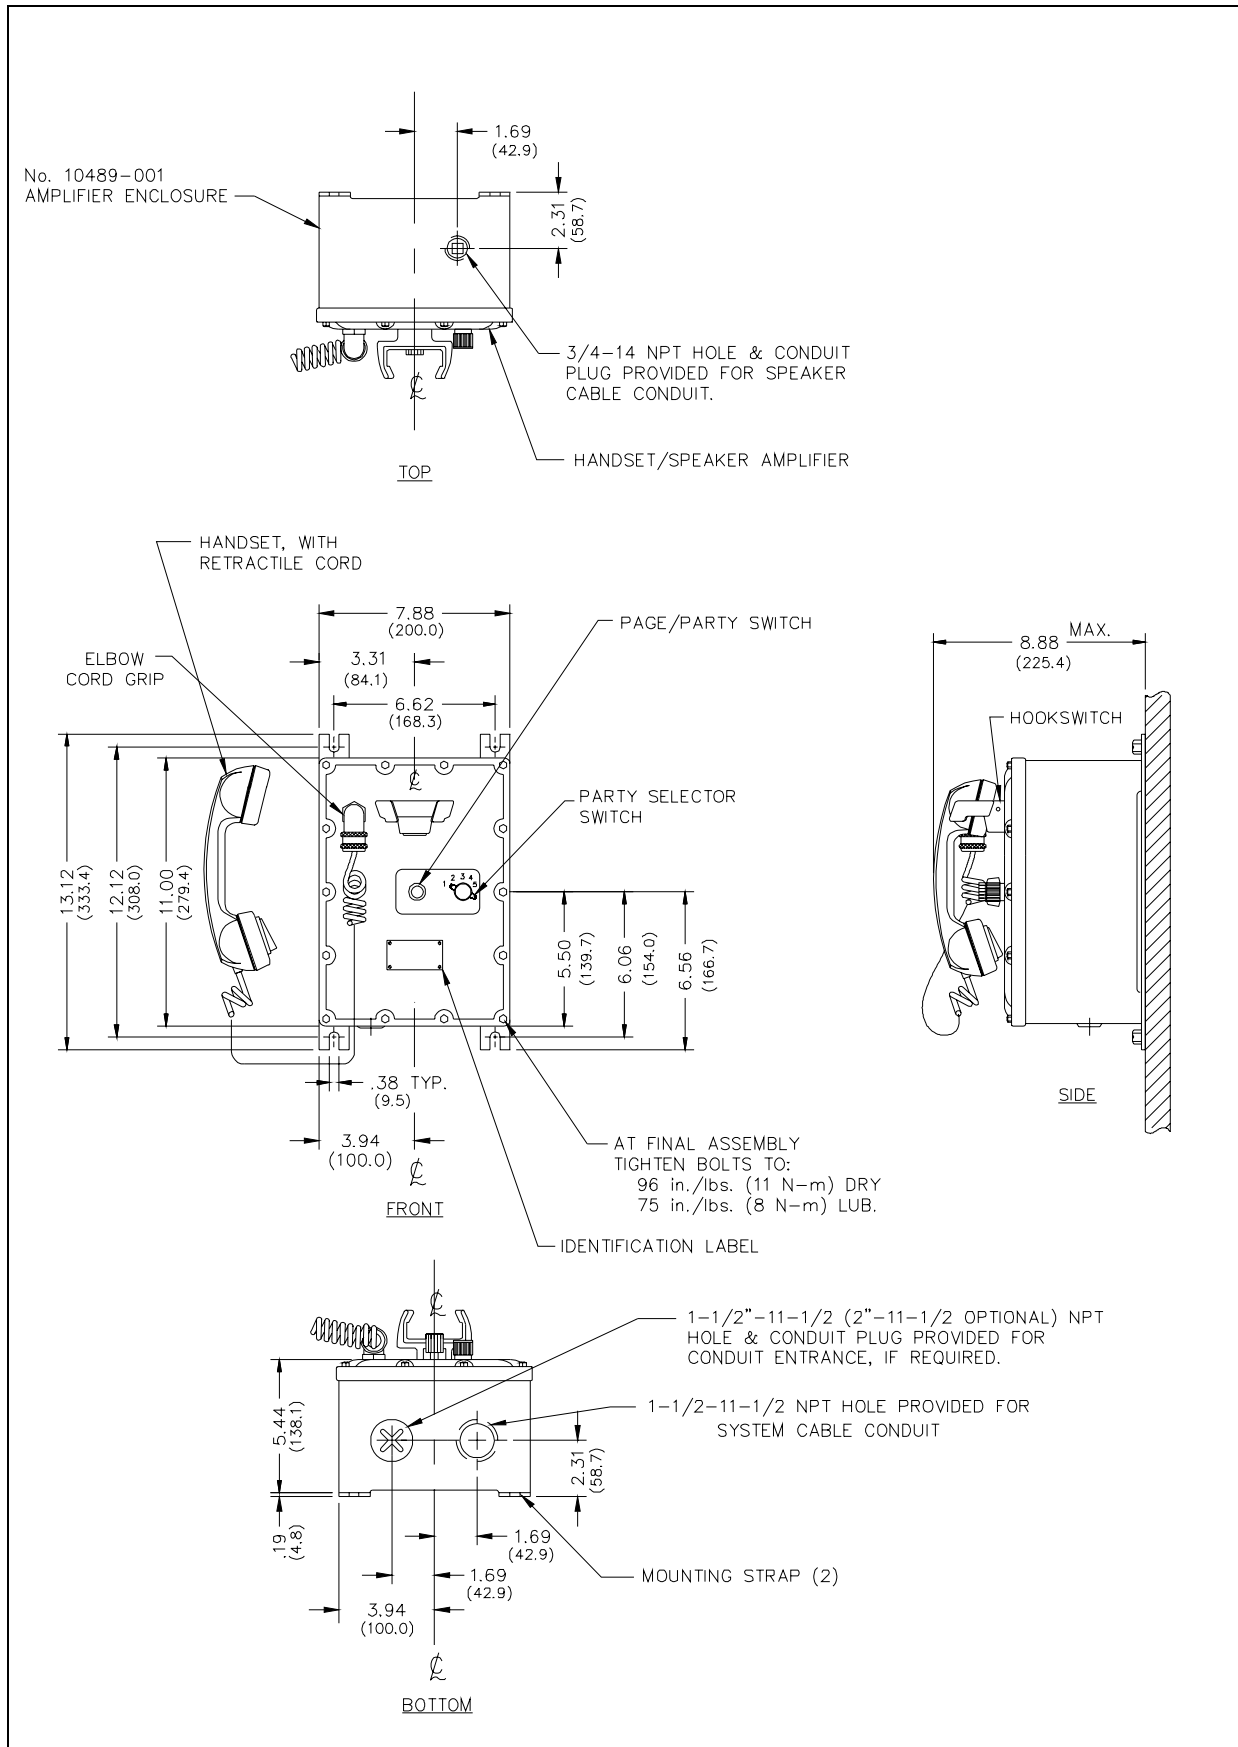

Figure 1. Mounting details for indoor stations
*Indoor Station:* Mount the indoor unit using the two mounting straps on the rear of the enclosure. Refer to Figure 1. Use the standard  $\frac{3}{8}$ -inch bolts to secure the enclosure to the mounting surface. Secure the two bottom bolts first, then the top bolts. The mounting strap design allows the station to be removed from its mounting surface by removing only two of the bolts.